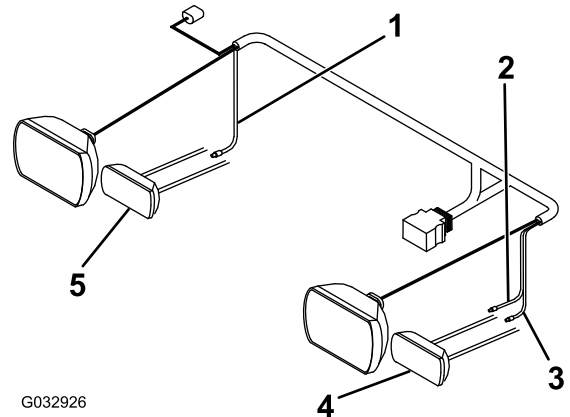

Figure 18
5. Connect the pink wire from the long wire harness to the right turn signal wire using a splice connector (Figure 18).
6. Connect the violet wire from the long wire harness to the left turn signal wire using a splice connector (Figure 18).
7. Connect the yellow wire from the long wire harness to the left park light wire using a splice connector (Figure 18).